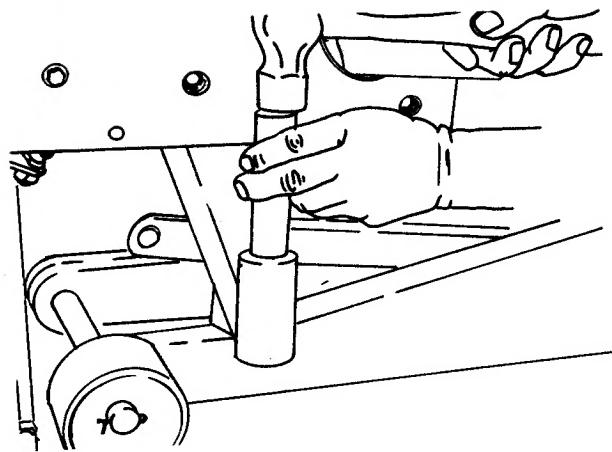

FIG. 2.14 — INSTALLING SPINDLE BUSHINGS
4. Install new bushings, Fig. 2.14.